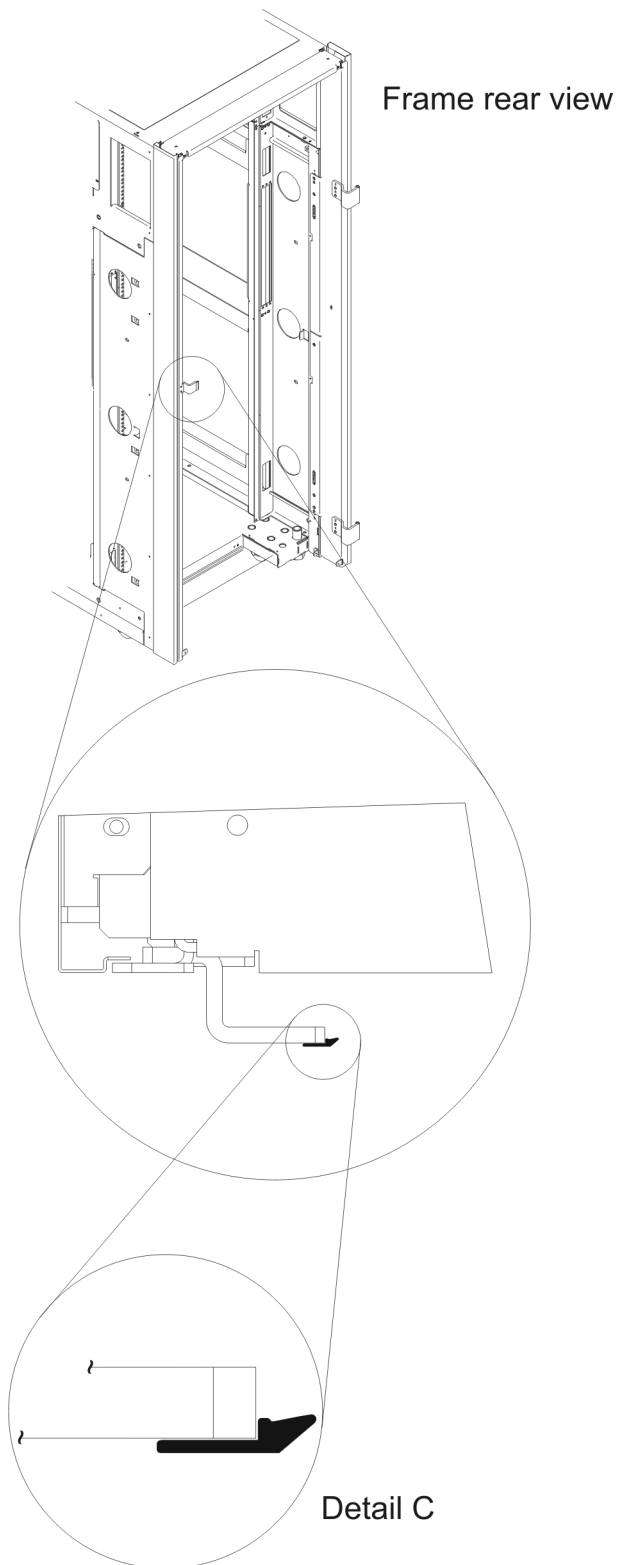

Figure 33. Frame location for EMC gasket on p5-575 server frames with acoustic covers
3. Install latch gaskets on frame (refer to Detail C on Figure 33 on page 94)